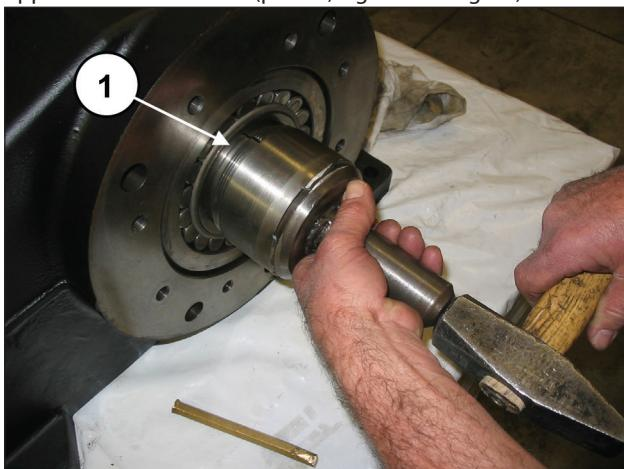
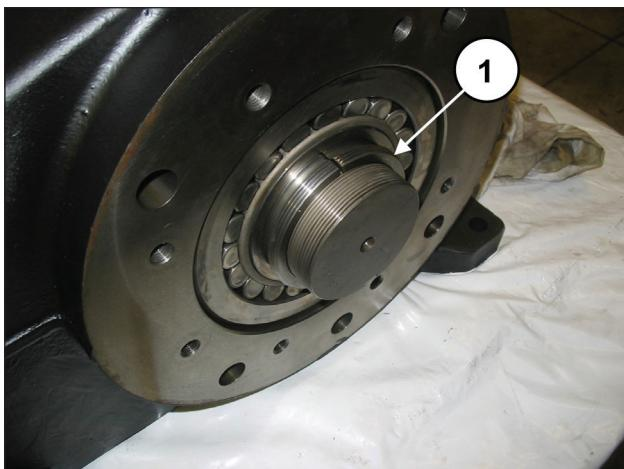

Fig. 50
Fig. 51
Insert the pressure bush completely onto the shaft from the opposite side to the PTO (pos. ①, Fig. 50 and Fig. 51).